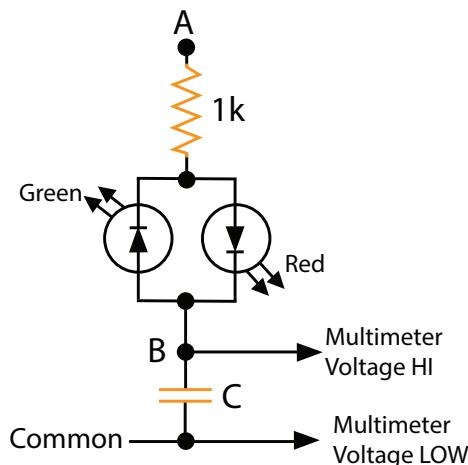

Figure 5.4.1: A circuit for observing the direction of the current during a transient event.
1. On your prototyping board construct the simple *RC* circuit shown in Figure 5.4.1. The LEDs are used to indicate the presence of current and its direction.